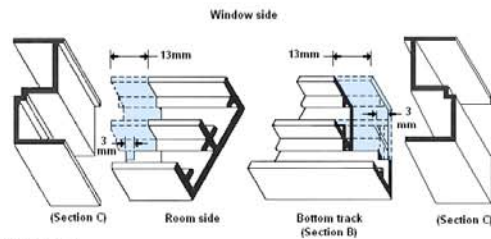

Figure 18
g) Repeat this procedure for the bottom track (Section B), but remember it is fitted flat face downwards, and therefore the cut-outs are not the same as for the top track (See figure 18).